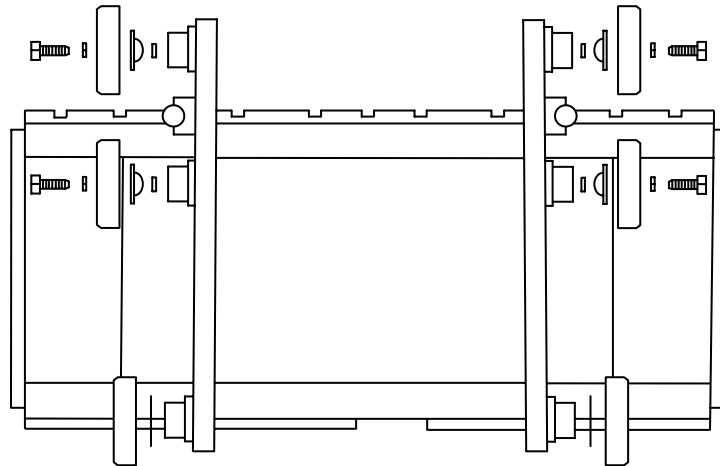

Figure 2-4: Remove Main Rollers
13. Remove the six main rollers from the lift bracket (see Figure 2-4). The two top rollers on each side of the lift bracket are secured with screws. The bottom roller on each side of the lift bracket can be removed by hand. Save the rollers, screws, washers, and shims so that you can install them on the scale carriage.